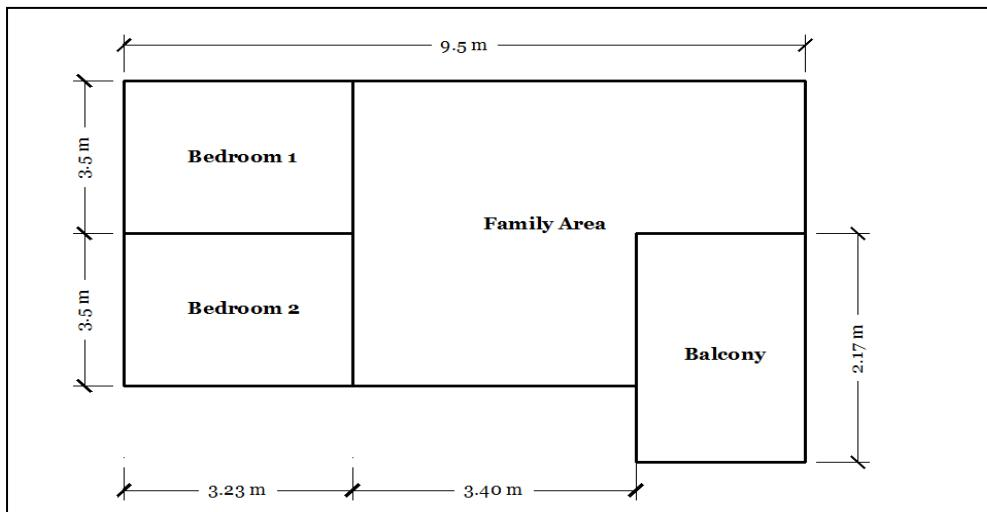

Figure B1(c) / Rajah B1(c)
- (c) Based on Figure B1(c), estimate the building cost by using Floor Area Method. Assume cost for 1m^2 is RM 550.00/ m^2 .